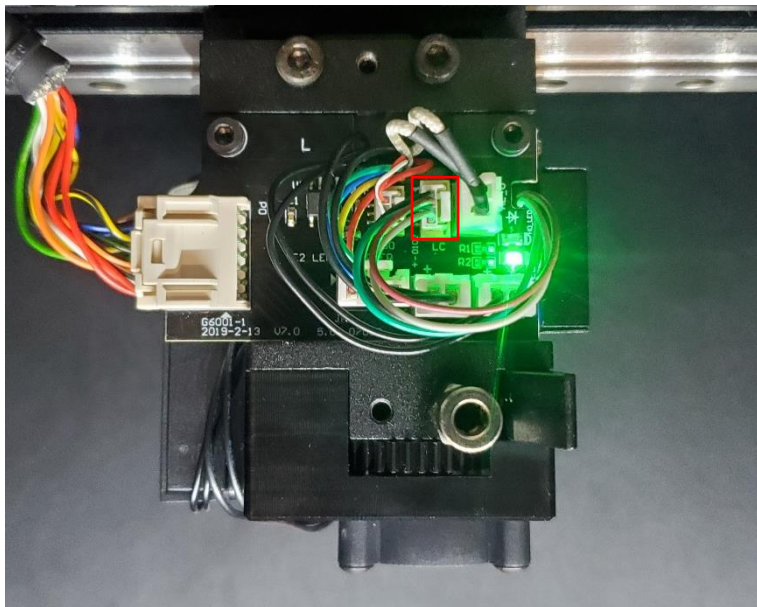
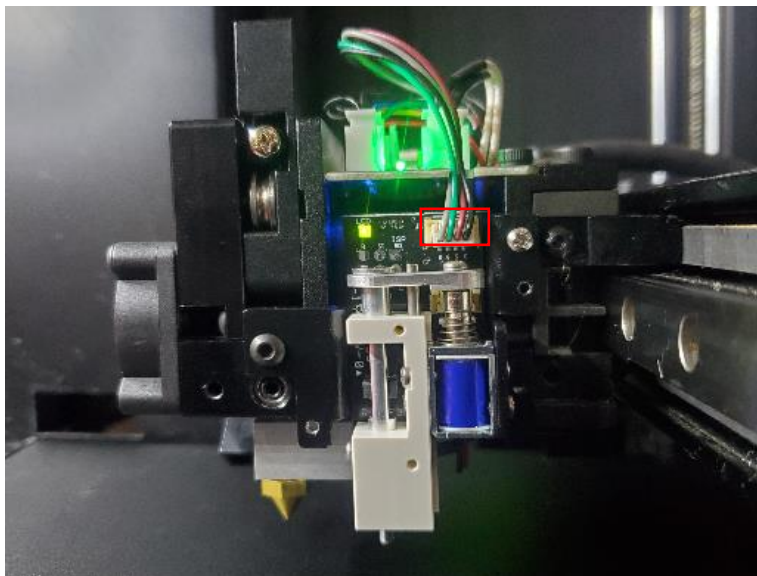

Figure 7: Auto-leveling assembly connector on the extruder controller board.
Figure 8: Auto-leveling assembly connector on the auto-leveling assembly.
- 3) Re-plug the two auto-leveling assembly connectors on both the auto-leveling assembly and the extruder controller board (refer to **Figure 7** and **Figure 8**).